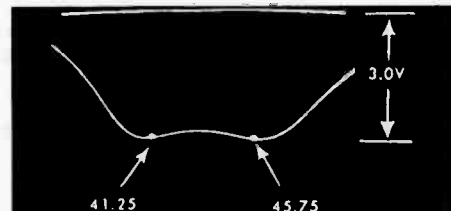

Fig. 6 4th IF Response.
5. Adjust the sweep generator to obtain a pattern similar to Fig. 6 with a detector output of 3 volts peak to peak. Do not exceed this output during alignment.
6. Adjust the top and bottom cores of the fourth IF transformer to obtain a response similar to Fig. 6 . The 41.25 and 45.75 Mc markers should be adjusted for symmetry and should fall as close to the response curve humps as possible. If the correct response curve cannot be obtained, check the position of the two cores to see that they are not butted but are entering their respective windings from the opposite ends of the coils.